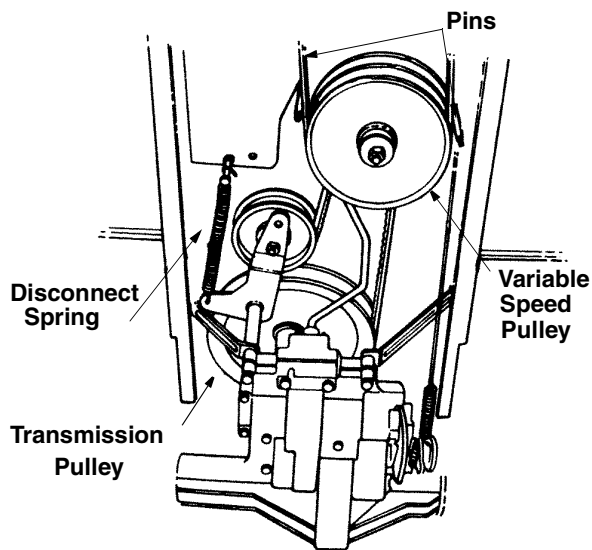

Figure 30
- Remove the two pins which act as belt keepers by the variable speed pulley. See Figure 30.